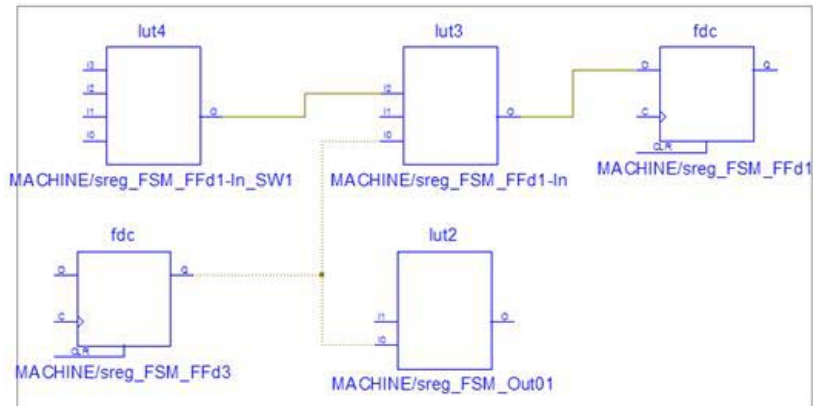

Figure 4-18: Previous View
1. Push the Previous Schematic button several times to get the following view, shown in Figure 4-18.